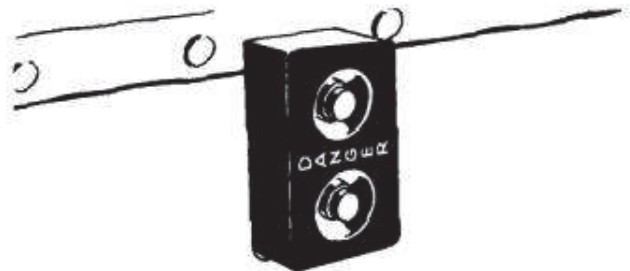

Figure 69 — Detonator Switches
c. The detonator switches are connected to a charge of explosive in the SCR-535 radio set in the waist compartment. Press both buttons simultaneously to destroy the set. The resulting explosion is not dangerous to personnel, but contact with the set should be avoided at the time of the explosion. (See figure 69.)